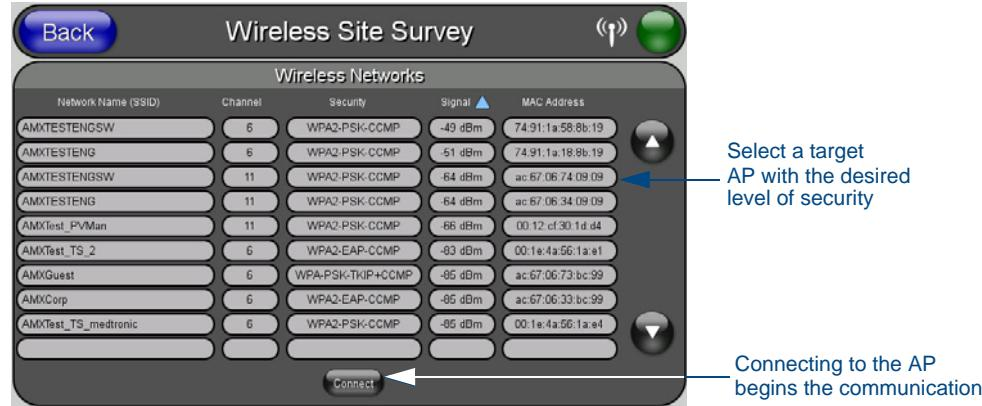

FIG. 24 Site Survey of available APs (Secured AP shown selected)
2. Press the **Site Survey** button at the bottom of the page to open the *Wireless Site Survey* page (FIG. 24).